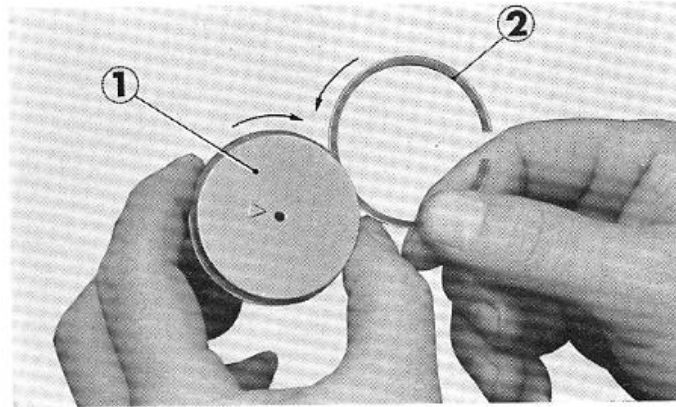

Fig. 2-31 ① Piston ② Piston ring
- a. When assembling new rings, roll the rings in their respective piston grooves to check the fit. (Fig. 2-31)